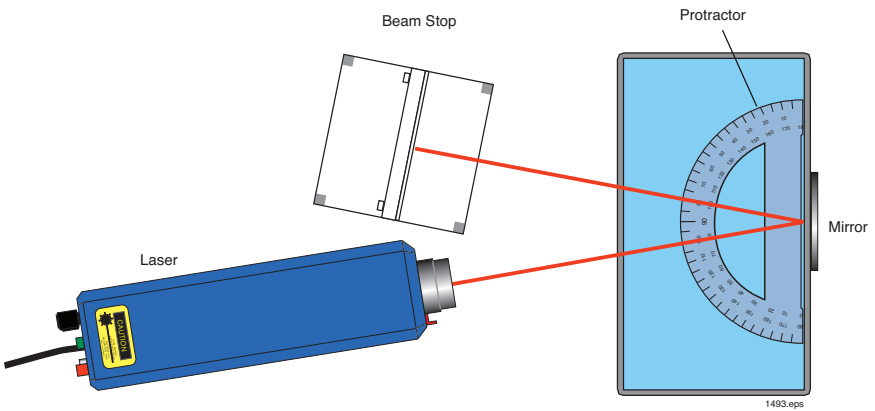
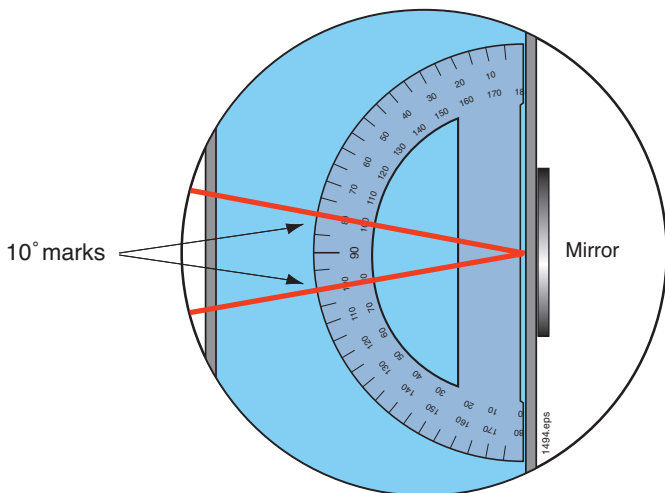

Figure 4. Overhead view of the laser, protractor and scattering tank of water.
Figure 5. Detail of laser beam alignment with the protractor.
2. Collect all of the items listed in the EQUIPMENT NEEDED section. Place the protractor in the bottom of the scattering tank as shown in Figure 4.
6. Roughly align the laser so its beam will pass over the center of the protractor as shown in Figure 4.
7. Position the beam stop so the laser beam reflecting from the mirror will strike the beam stop as shown in Figure 4.
11. Depress the ON/OFF switch (SW) on the control scattering tank of the laser until it clicks into the ON position. (The switch should be slightly depressed.) The pilot light (green LED) should now be lit, showing that the laser is on.
- Stand above the experiment and look down on it so you can see the laser beam and components as shown in Figure 5.
- Align the incident laser beam over the center and the 10° mark on the protractor as shown in Figure 5.